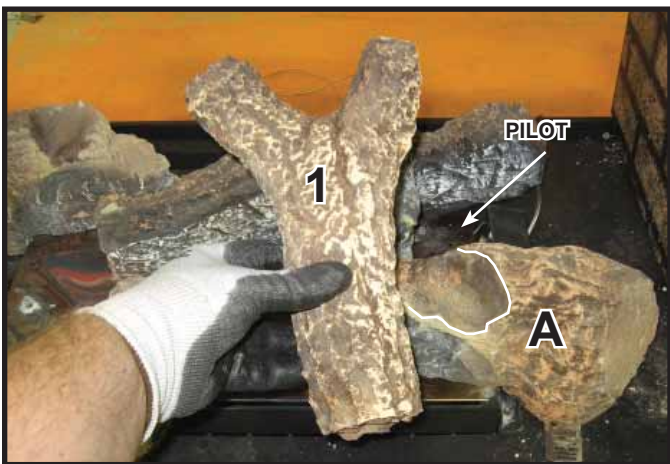
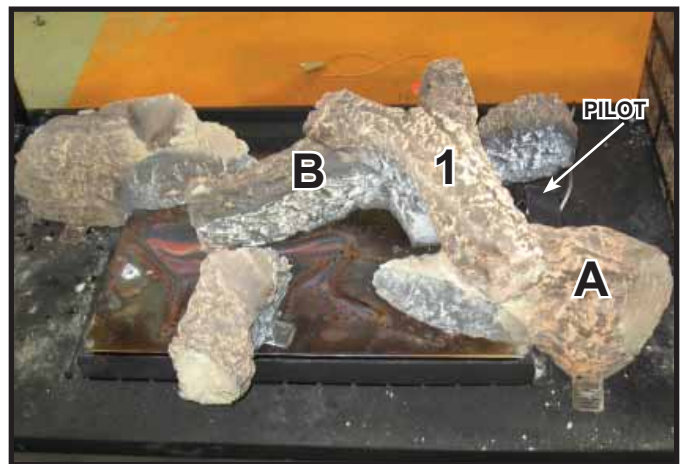

Figure 3. Placement of Log #1
Figure 4. Placement of Log #1
**STEP 1. Log #1 (SRV2129-704):** Place Log #1 on Log A. The end and bottom of Log #1 fit into the indentation on Log A highlighted in Figure 3. The Y-shaped end of Log #1 will rest on the smooth area of Log B as shown in Figure 4.